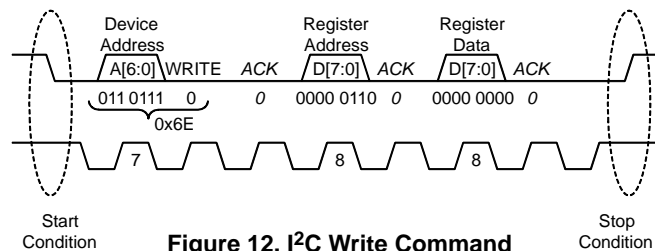

Figure 12. I²C Write Command
Figure 12 shows an I²C write operation. Write transactions begin with the master sending an I²C start sequence followed by the seven bit slave address (NOA2301 = 0x37) and the write(0) command bit. The NOA2301 will acknowledge this byte transfer with an appropriate ACK. Next the master will send the 8 bit register address to be written to. Again the NOA2301 will acknowledge reception with an ACK. Finally, the master will begin sending 8 bit data segment(s) to be written to the NOA2301 register bank.